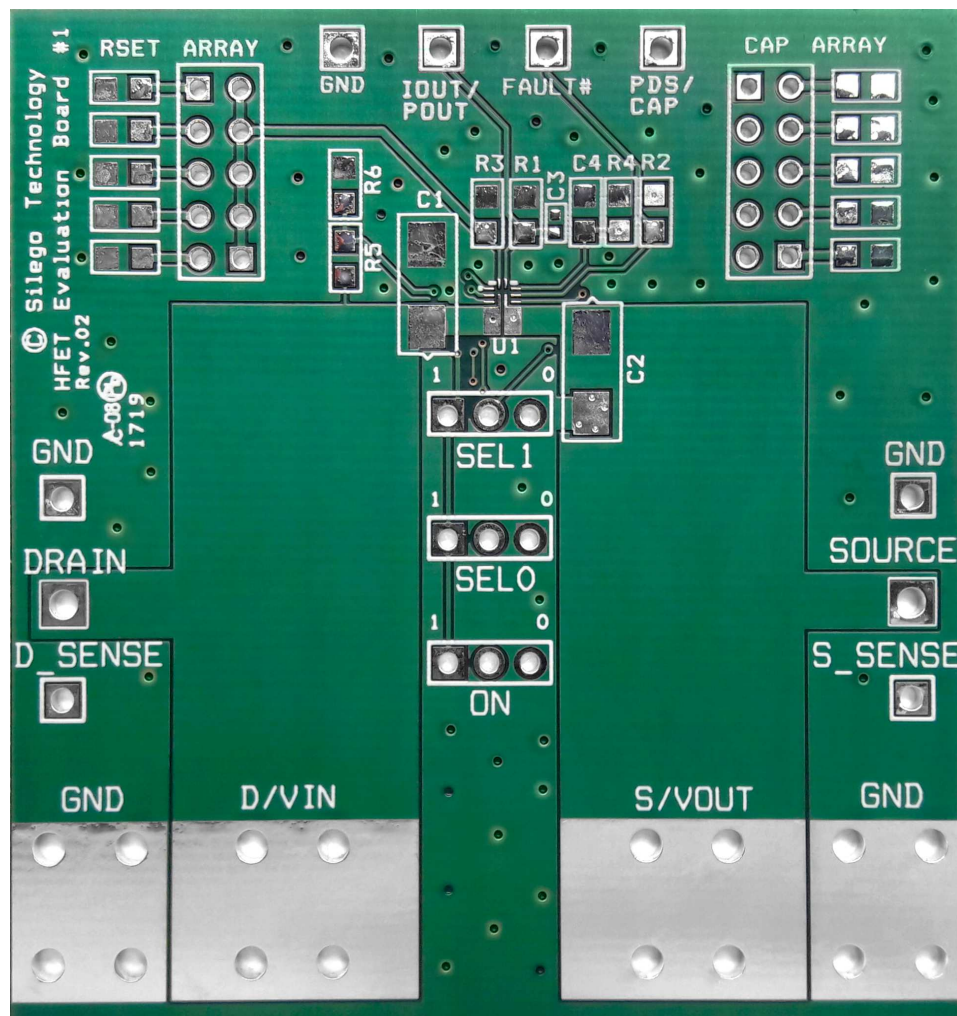

Figure 10. SLG59H1120V Evaluation Board
1. Since the VIN and VOUT pins dissipate most of the heat generated during high-load current operation, it is highly recommended to make power traces as short, direct, and wide as possible. A good practice is to make power traces with an absolute minimum widths of 15 mils (0.381 mm) per Ampere. A representative layout, shown in Figure 10, illustrates proper techniques for heat to transfer as efficiently as possible out of the device;
A High Voltage GreenFET Evaluation Board for SLG59H1120V is designed according to the statements above and is illustrated on Figure 10. Please note that evaluation board has D\_Sense and S\_Sense pads. They cannot carry high currents and dedicated only for  $RDS_{ON}$  evaluation.